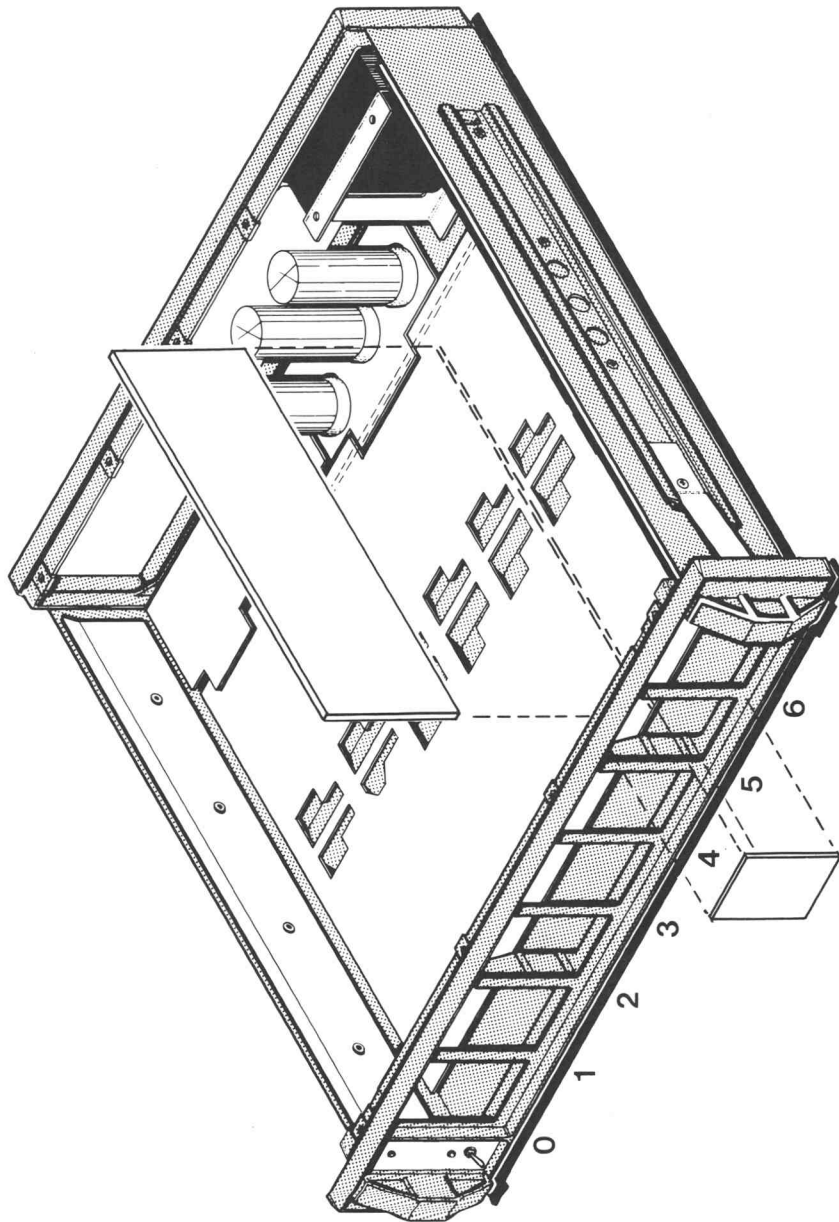

Fig. 3-1. Installing the module circuit board in the mainframe.
1. Select one of the available 1410 Mainframe module locations for installation of the TSG4 module: Locations 2 through 6 with the SPG1 or SPG2 installed or locations 1 through 6 with the SPG3 installed (see Fig. 3-1).